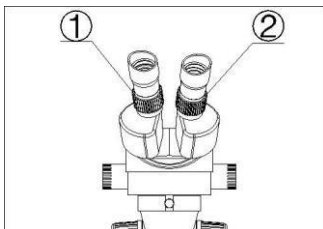

Fig.3
- 5) Observe the specimen through the right eyepiece and make the image clear by turning the right dipter adjusting ring ②. (Fig.3)
- 6) Redo the step (1), (3), (4) and (5) till the right adjusting ring is more precise.
- 7) Do step (4) and make the image clear which is observed through the left eyepiece turning the left dipter adjusting ring ①. (fig.3)